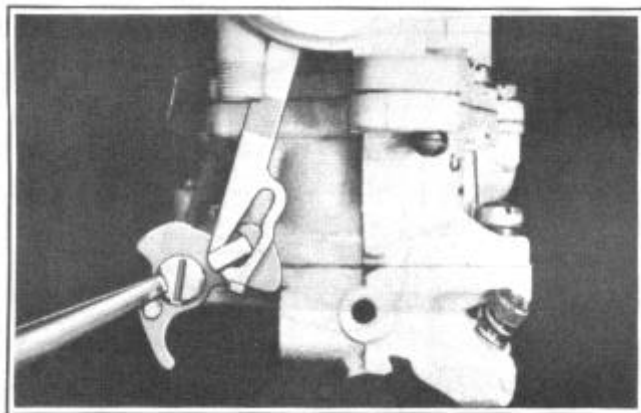

FIGURE 9
1. Remove fast idle cam and pin assembly, Figure 9.